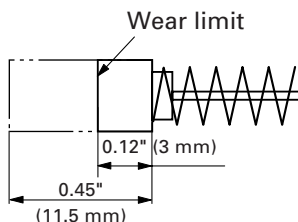

Fig. 24
4. Inspecting the carbon brushes (Fig. 24)